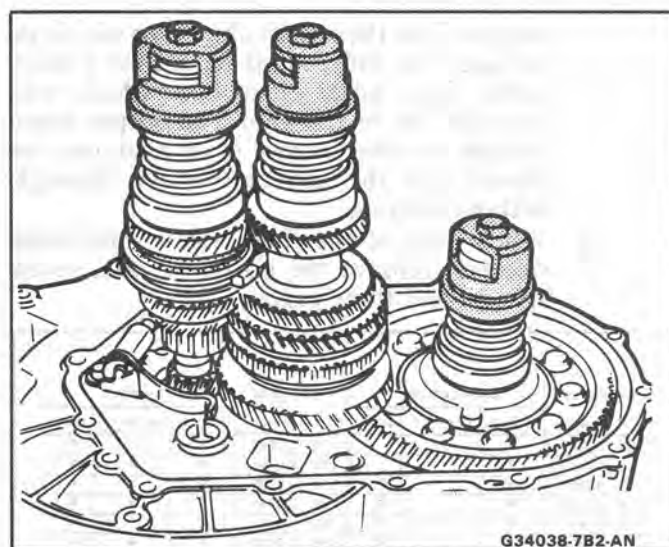

Fig. 39 Gages in Position
- A. Position the outer bearing races on the input, output and differential bearings. Position the shim selection gages on the bearing races as shown in Fig. 39. The 3 gages are identified: Input, Output and Differential.